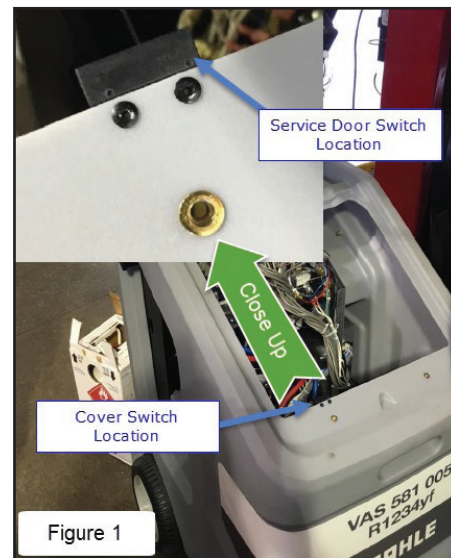

Figure 1
- If the service door is removed or opened, the unit will automatically stop all processes. The ventilation fan will remain in operation to ensure any R1234yf vapors are removed. See Figure 1.